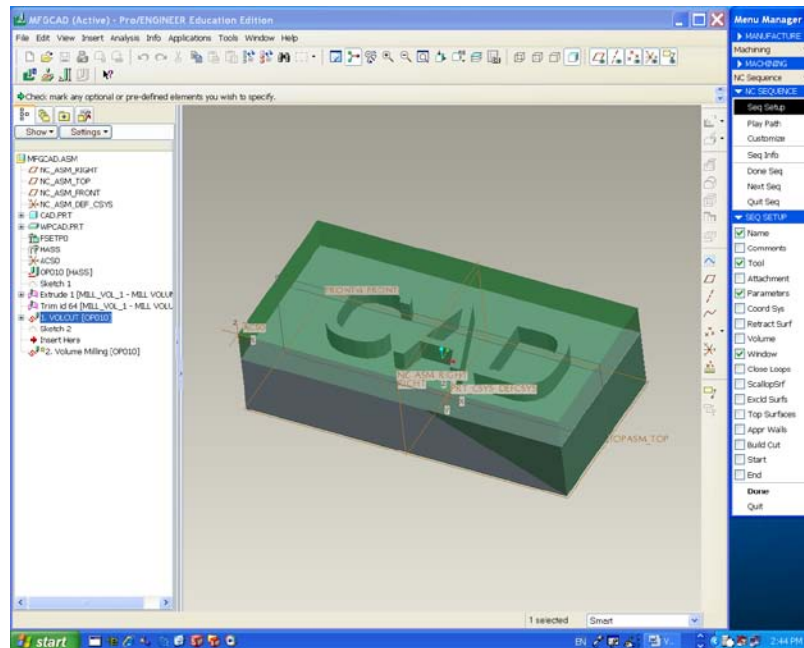

Figure 1.39
2. SEQ SETUP window pops up. Ensure that **name, tool, parameters,** and **window** are checked and then choose DONE. (Figure 1.39).